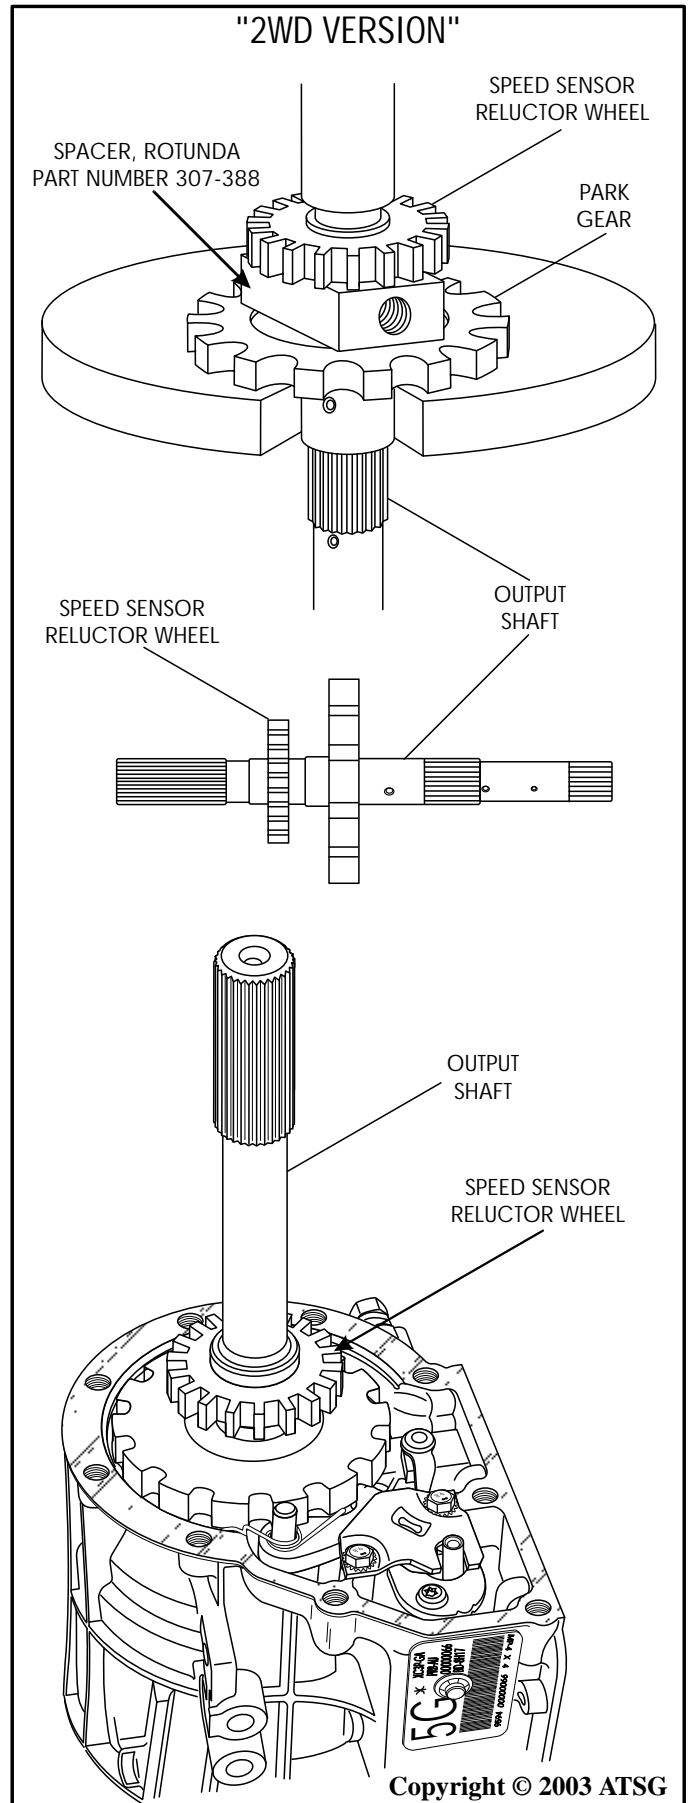

Figure 89
20. The 2WD version is illustrated in Figure 89, and notice that it has a speed sensor reluctor wheel pressed on next to the park gear, which is also a press fit on the output shaft.